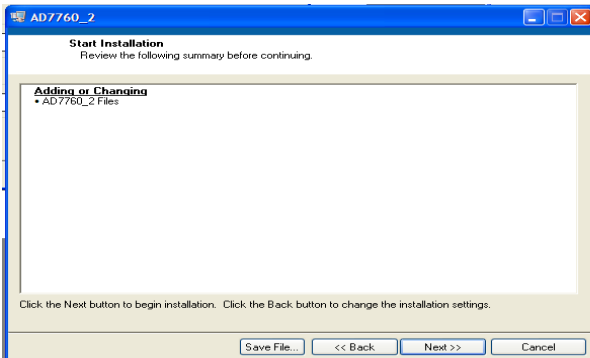

Figure 5. EVAL-AD776xEDZ Install actions
- 5. To start the installation, click the “Next” button as shown in Figure 5, this window details the actions of the installation.